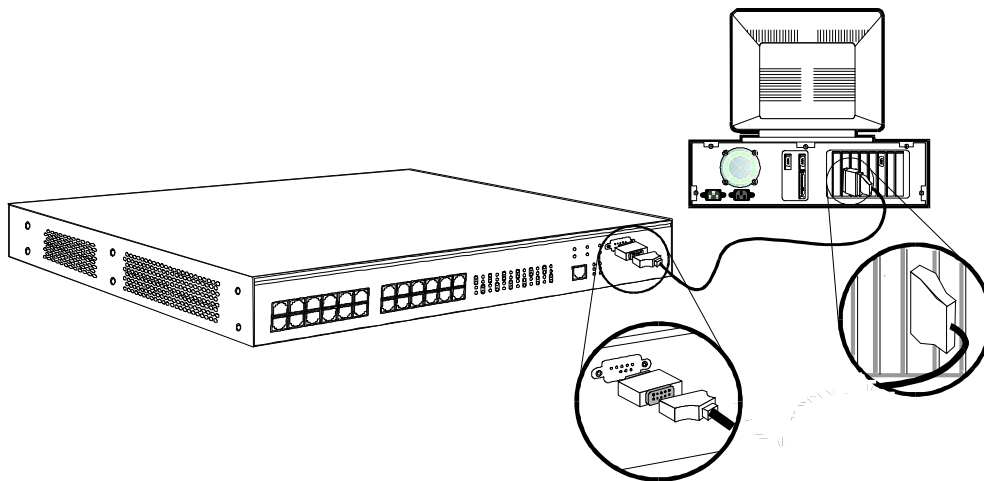

Figure 6. Connecting to a Terminal
1. Connect one end of the serial cable to your terminal or PC and connect the other end of the cable to a null modem adapter and then to the console port of the FE-224 Switching Hub as shown in Figure 6.